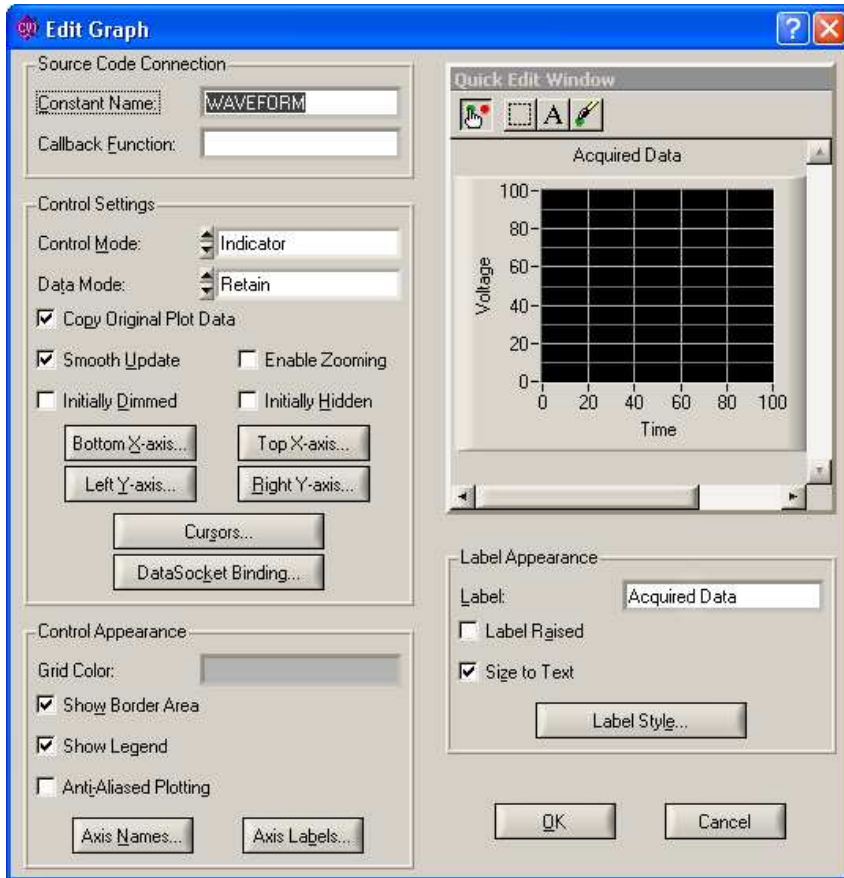

Figure 5-2. Edit Graph Dialog Box
6. Use the **Bottom X-axis** and **Left Y-axis** buttons to assign `Time` and `Voltage` labels to the x- and y-axes, respectively. Confirm that the dialog box looks as shown in Figure 5-2.